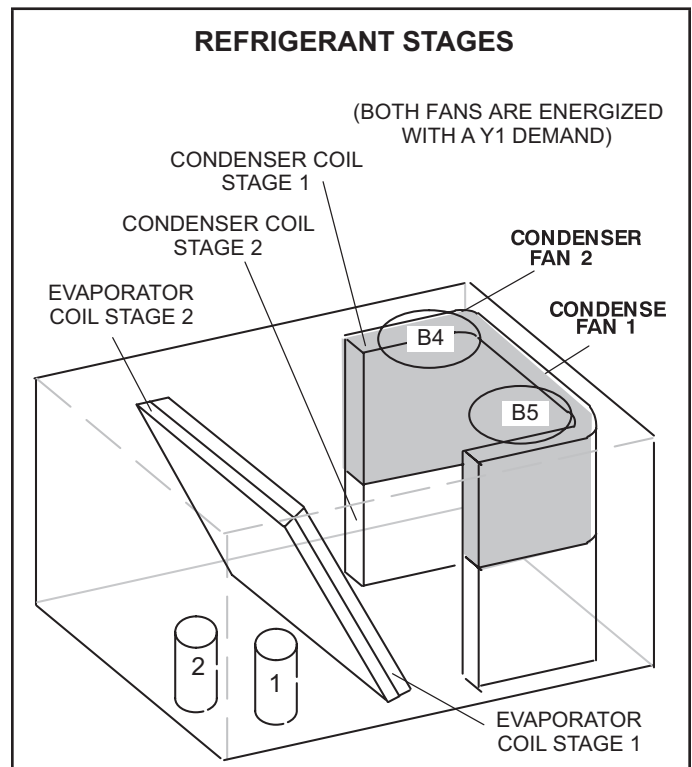

FIGURE 28
- 2 - Units have two refrigerant circuits. See FIGURE 28.